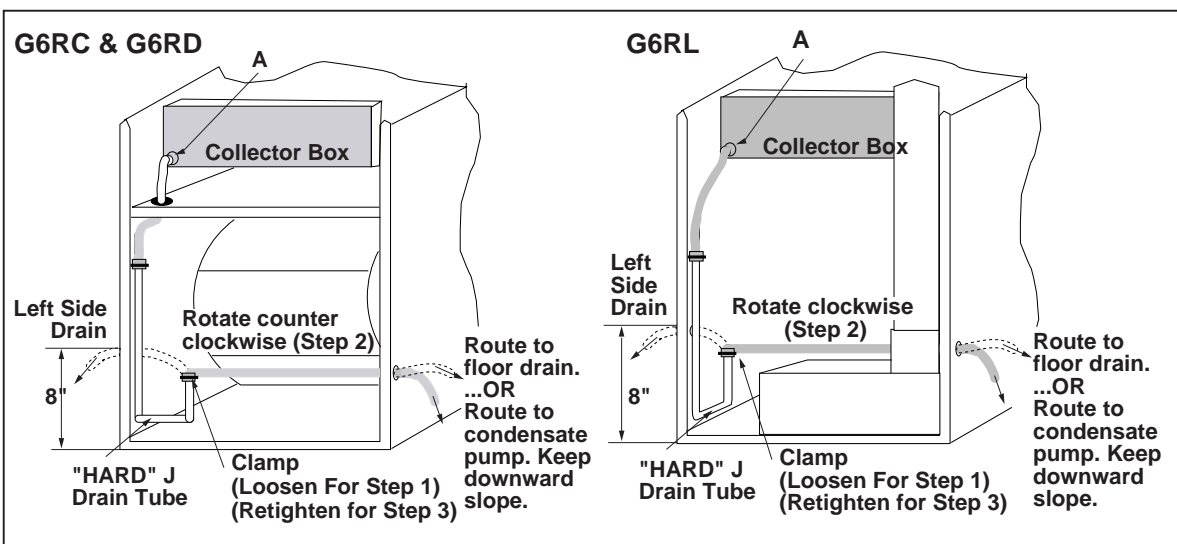

Figure 21. Furnace with Condensate Drain Trap Assembly
The condensate drainage system is internal to the furnace. The drain may exit either the right or left side of the furnace cabinet. For a right side drain simply extend the tubing out of the 7/8" hole in the cabinet, see Figure 21.
1. Loosen the clamp on the soft exit tube (see Figure 21.)
The condensate should drain from the plastic collector box (location A in Figure 21) as droplets or a small stream. If you notice the furnace has operated for more than 5 minutes without draining or the red status light on the control board is pulsing a 2-blink code follow the steps below.
1. Remove the collector box soft tube at location A in Figure 21 and insure the exit from